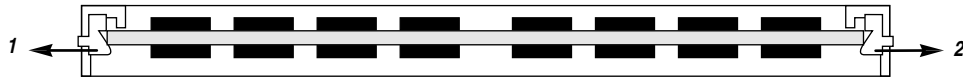

Figure 5-25 Releasing SIMM spring clips
1. *To release a SIMM strip, push outward on one of the spring clips. Then while supporting the SIMM, push outward on the other spring clip. (See Figure 5-25.)*